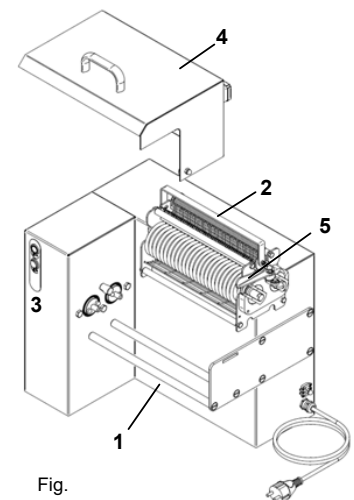

Fig. 6.4.1
- Raise the interlocked blade guard (Ref. 4 Fig. 6.4.1).
- Place the cartridge on the bars of the base (Ref. 1 Fig. 6.4.1).
- Turn the cartridge lever (Ref. 5 Fig. 6.4.1) so that the blade roller pins insert into the drive pins, until they slot into place.
- Close the interlocked blade guard (Ref. 4 Fig. 6.4.1).
- Press the controls (Ref. 3 Fig. 6.4.1) to switch the machine on or off.
Handle the blade cartridge always through the appropriate handle (Ref. 2 Fig. 6.4.1) and protect the hands with Kevlar cut-resistant gloves.
- Turn the interlocked blade cover (Ref. 4 Fig. 6.4.1) by 90° and push it towards the left: the blade guard will come off.
- Detach the blade cartridge lever (Ref. 5 Fig. 6.4.1).
- Take the cartridge (Ref. 2 Fig. 6.4.1) off the bars of the base using the handle and pull it so that the blade pins detach from the drive mechanism.